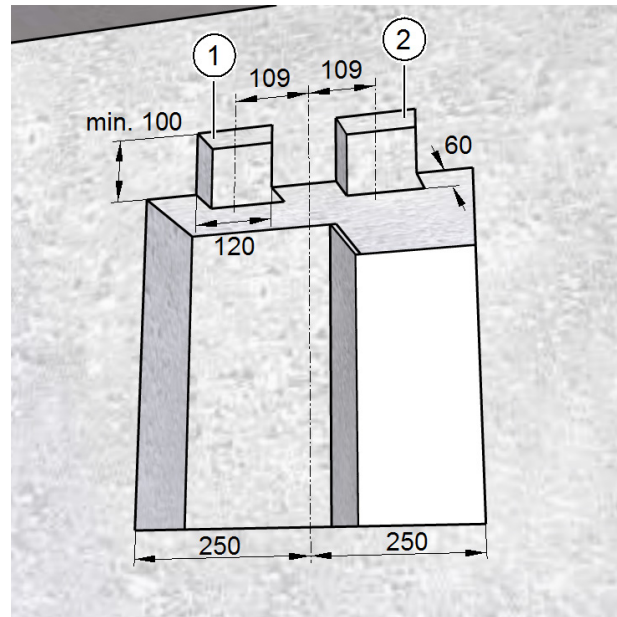

Fig. 8: Chasing out channels for flat ductwork connections, dimensions in millimetres
- ▶ Use the wall chaser to chase out **one** channel 120 mm wide, 60 mm deep and at least 100 mm high (see Fig. 8) for either the exhaust air duct (item 1 in Fig. 8) **or** the supply air duct (item 2 in Fig. 8).
- ▶ Use the wall chaser to chase out **two** channels 120 mm wide, 60 mm deep and at least 100 mm high (see Fig. 8) for both the exhaust air duct (item 1 in Fig. 8) **and** the supply air duct (item 2 in Fig. 8).